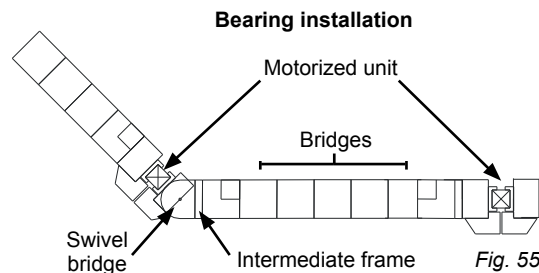

Fig. 55
- 4- For a bearing installation (see fig. 55), use the yoke plates and bolt assemblies to attach the intermediate frame to the swivel bridge as described in the instructions for a bearing bridge installation (see p. 23).